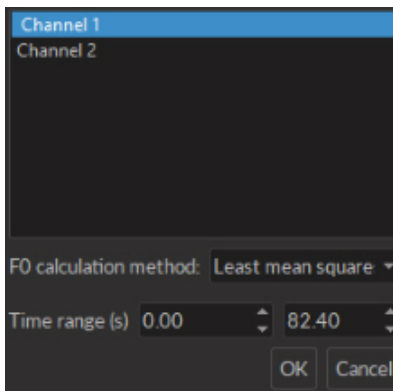

Figure 3.36: $\Delta F/F_0$ Options
- The $\Delta F/F_0$ function opens the **Select Which Traces to Process** window (Fig. 3.36). It is used to calculate the normalized fluorescence variation of the data and displays the results in a new graph. See section 3.2.2 for more details.